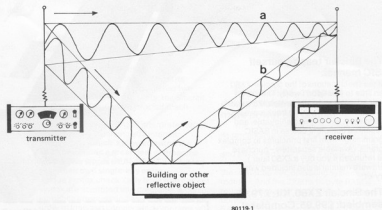
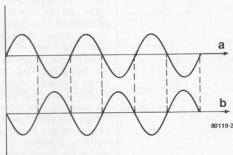

Figure 1. Multipath distortion is caused when the transmitted signal reaches the receiver via two (or more) paths of different lengths.
Figure 2. The direct (a) and reflected (b) signals may often be in exact antiphase when they reach the receiver aerial and cancel each other completely.
Multipath distortion occurs when the signal of a transmitter reaches the receiver along more than one 'path'. Figure 1 illustrates this. If the difference in distance between two of those signals is equal to an odd number of half wave lengths, then these are out of phase relative to each other. This is the case in figure 2 where the direct (a) and the reflected (b) signals of figure 1 have been drawn. If they are both equal in strength, then one cancels the other. This is an extreme case and it does not occur that often. There is usually a difference in amplitude between a direct and a reflected signal and, often, more than one reflected signal reaches the receiver. On the other hand, the signals add when the difference in distance corresponds to an even number of half wave lengths. Let us now consider the complete music or speech modulated transmission signal. It will be seen that things are quite different. After modulation there are a large number of signals of various frequencies and the chances are that one or more frequencies will occur in the total spec-
When the start button, S1 of figure 1, is depressed, the  $\bar{Q}$  output of FF1 goes low. As the Q output of FF1 is high, the memory WRITE signal is inhibited by N4. When one of the keys on the ASCII keyboard is depressed, preferably the space key or a control key, a strobe pulse (KS) will be generated. The leading edge of the strobe pulse will cause the data from the keyboard to be entered into the UART in parallel. With switch S1 in figure 2 closed, this information will be passed out of the transmitter section of the UART and back into the receiver section in series. Once a complete character has been transferred in this manner the Data Available (DAV) output, pin 19, of the UART will go high for a short period of time. The trailing edge of this pulse will set the RS flip-flop formed by N1 and N2 which in turn will take the select inputs of the multiplexers high. The memory data, together with the R/W signal, will now be present at the multiplexer outputs. Shortly after the DAV pulse, an R/W pulse is generated which acts as a substitute for the strobe pulse. This means that the data held in memory will be shifted in and out of the UART repeatedly. This information passing out of the UART in series can now be stored on cassette. Since the recorder will have to be running before a key is depressed, the character which starts the cycle will also be recorded. This is why it is advisable to use the space key or a control key, as these will have very little effect on the actual display.
4. Connect points A1, A2, B1, B2, C1 and C2 of figure 1 to the corresponding points in figure 2.
5. Connect pin 27 of IC10 (RP) in figure 2 to the point marked RP in figure 1.
in figure 1:	in figure 2:
7. Disconnect points KB0...KB6 between the keyboard and IC8 in figure 2 and re-connect as follows:
8. Finally, connect the outputs of the two multiplexers in figure 1 to the UART (IC8) in figure 2 as follows: